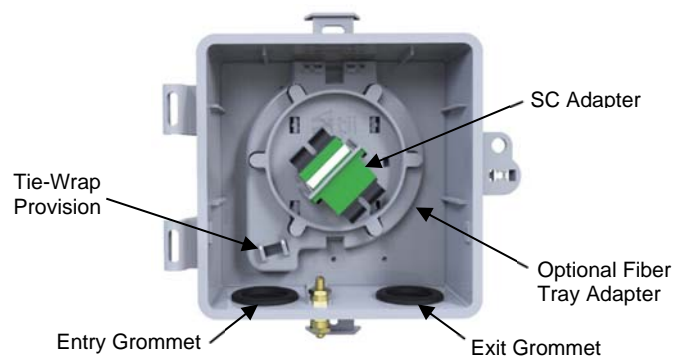

**Figure 1**
2. In addition to external mounting ears mentioned in Step 1, there are optional provisions for pole strapping provided on the rear of the enclosure (See Figure 1).
1. This unit allows for two pairs of copper connectivity management, utilizing an optional Copper Connectivity Plate (See Figure 1). Tool-less IDC connections are provided to electrically connect two wire pairs, and each pair has easily accessible test points.